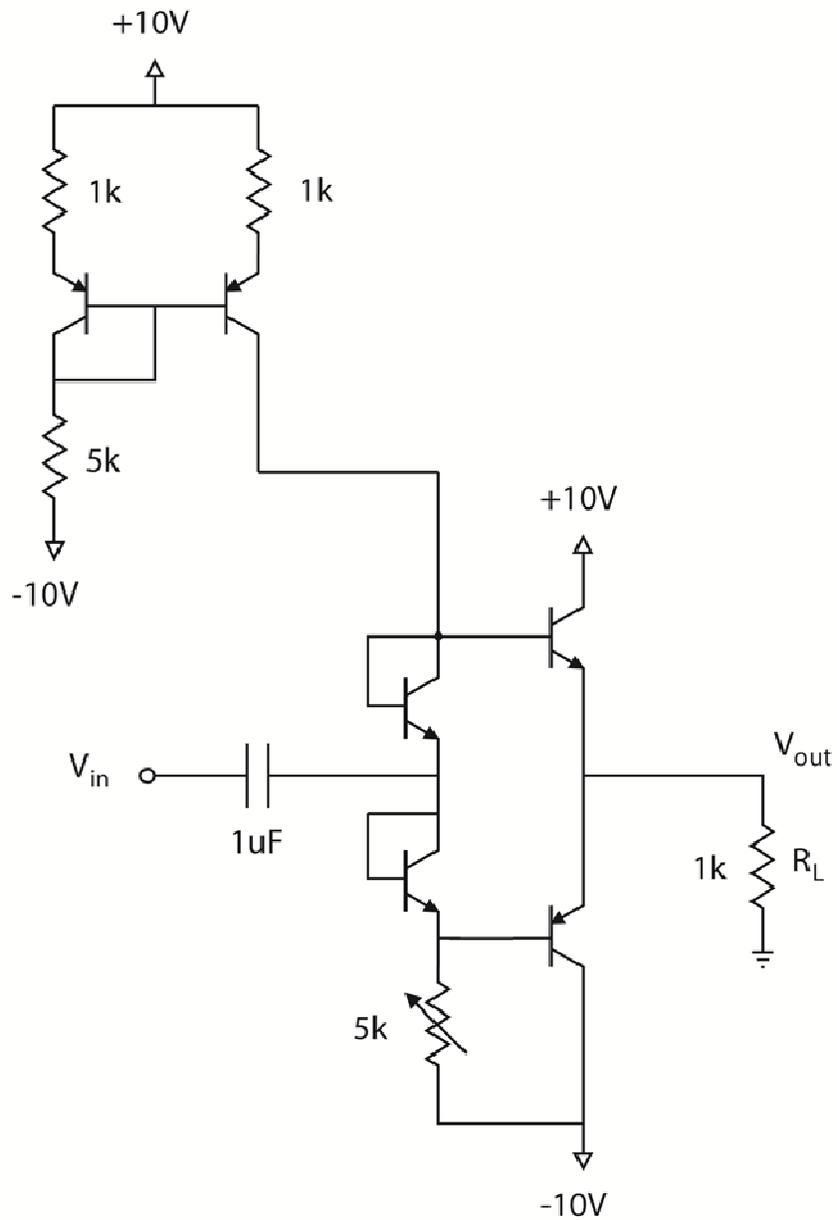

Fig. 3
1. Construct the circuit as depicted in Fig. 3. Apply a 1V sinusoidal signal to the input and observe the output on the oscilloscope. You may notice the presence of a DC offset. If not, be sure your oscilloscope is set to DC coupling. Adjust the 5k variable resistor to get rid of this DC offset.